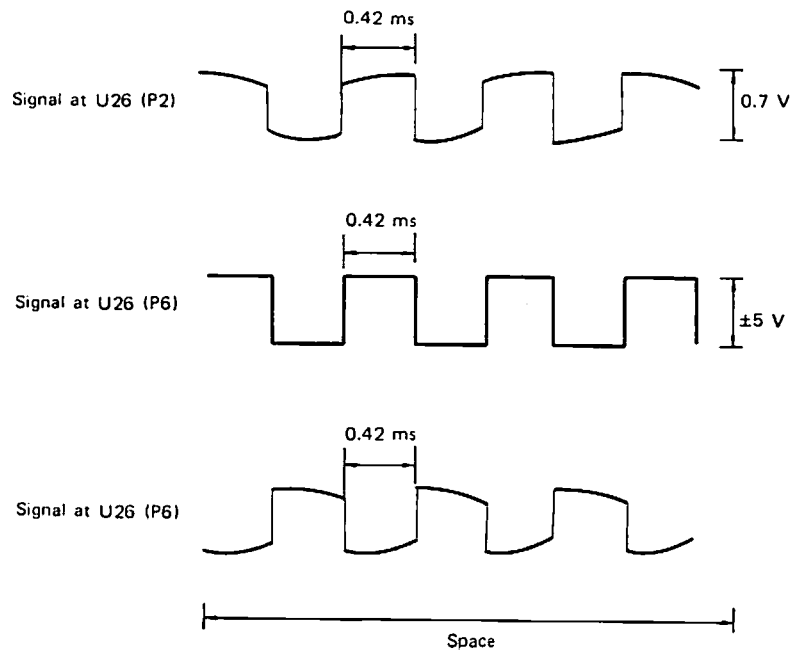

Figure 5.33 Terminal Signals
a) By connecting the circuit, you can measure the signal in Figure 5.33.